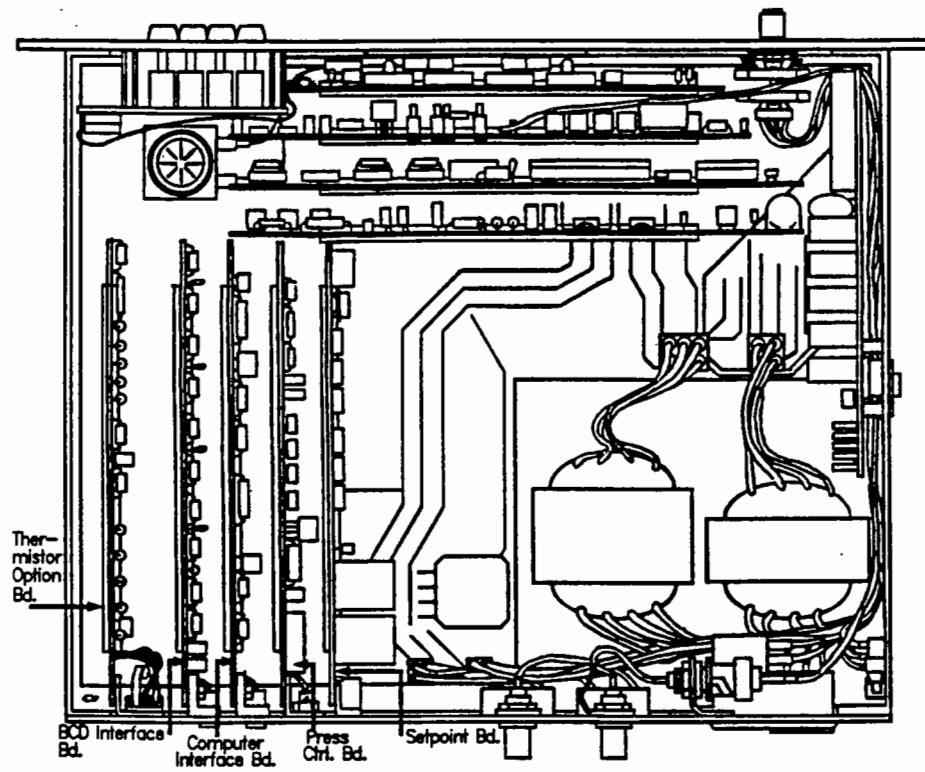

Figure 2-3. DGC III With Top Cover Removed.
5. Notice that there are five 86-pin connectors at the rear of the DGC, as shown in Figure 2-3. Each of these connectors is designed to hold a specific option board. The mother board (the main board on which these connectors are mounted) identifies which option occupies a connector. The options, as viewed from the rear of the DGC III from left to right, are the thermistor, BCD, computer interface, pressure control, and setpoint. Refer to Figure 2-3.